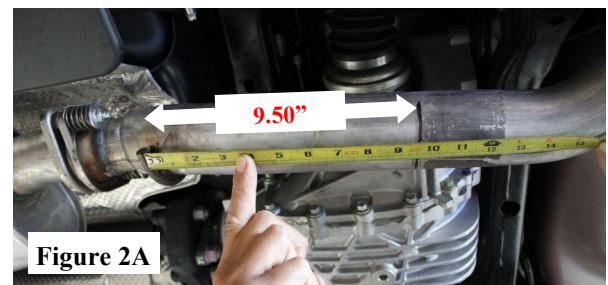

Figure 2A
3. Mark a cutting line on both exhaust pipes 9.5" from hangar weld. (See Figs. 2A & 2B)